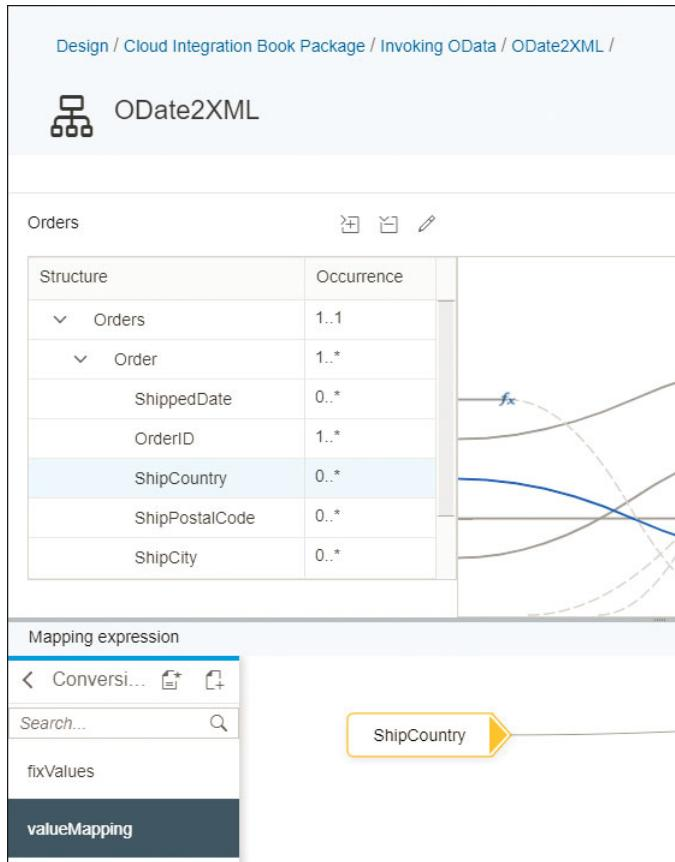

Figure 4.91 Adding a Value Mapping Function in the Mapping Logic
4. Select the **valueMapping** function under the **Conversions** function category (bottom-left corner of Figure 4.91).